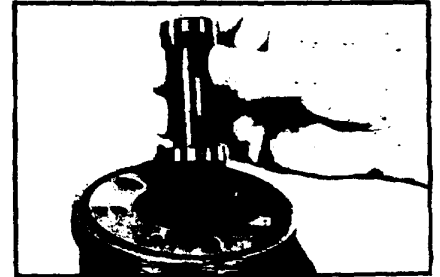

Figure 11
9. Remove drive link (8) and inspect it for cracks and for chipped or damaged splines. No perceptible lash (play) should be noted between mating spline parts. Replace, if necessary SEE FIGURE 11.